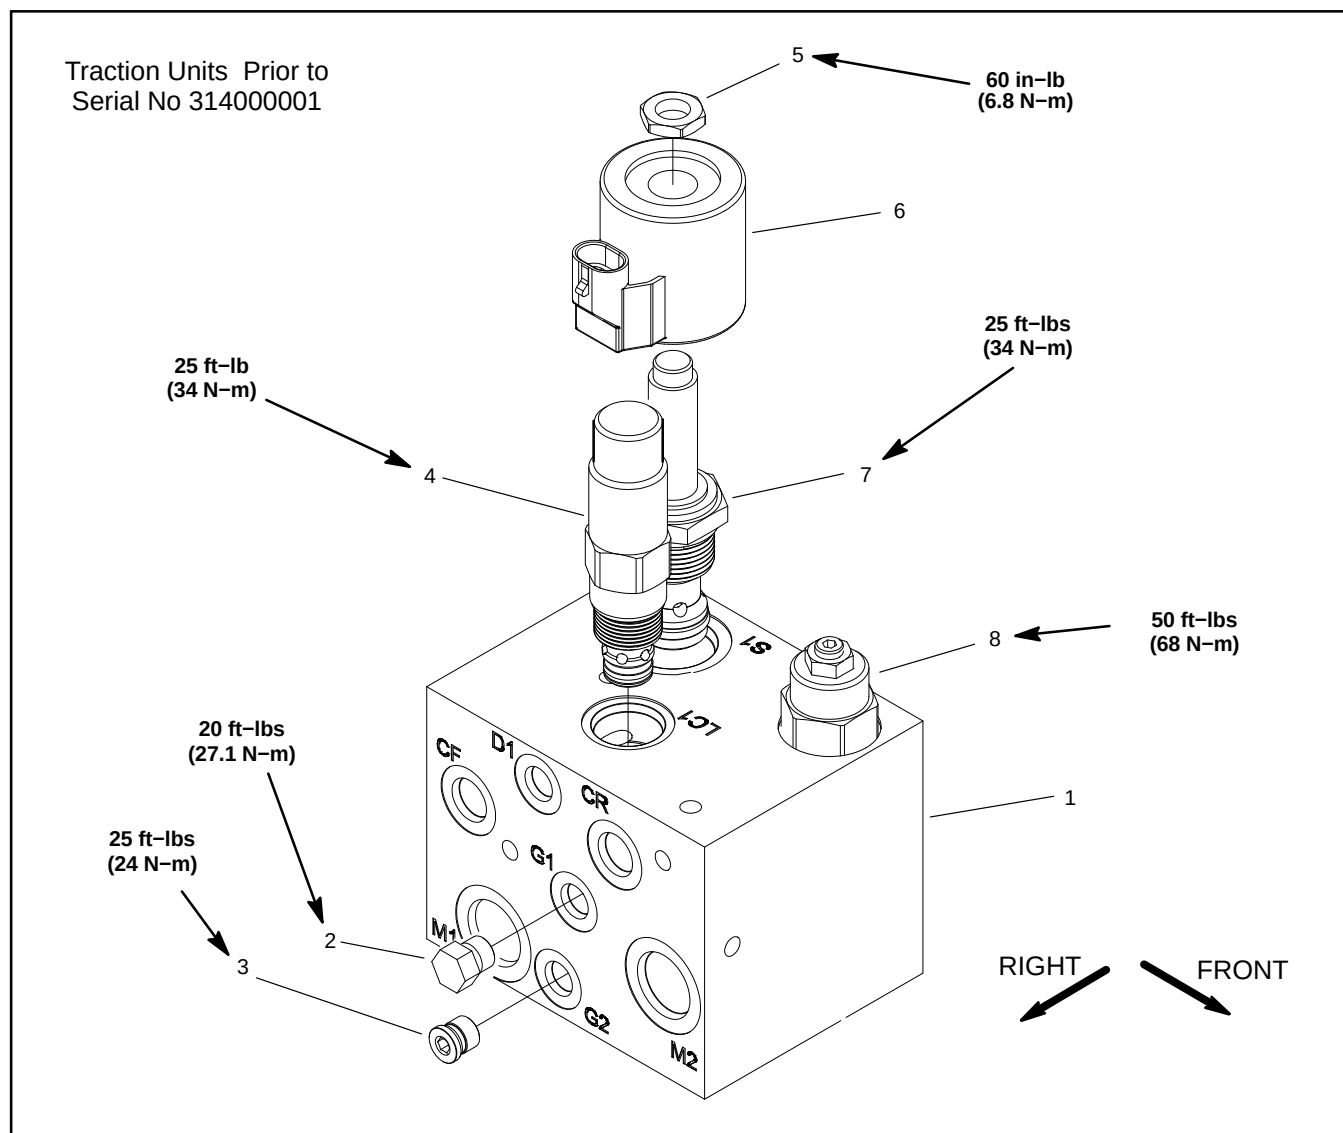

Figure 67
Cartridge Valve Service (Fig. 67 and 68)
- C. Torque cartridge valve using a deep socket to value identified in manifold illustrations (Fig. 67 and 68).